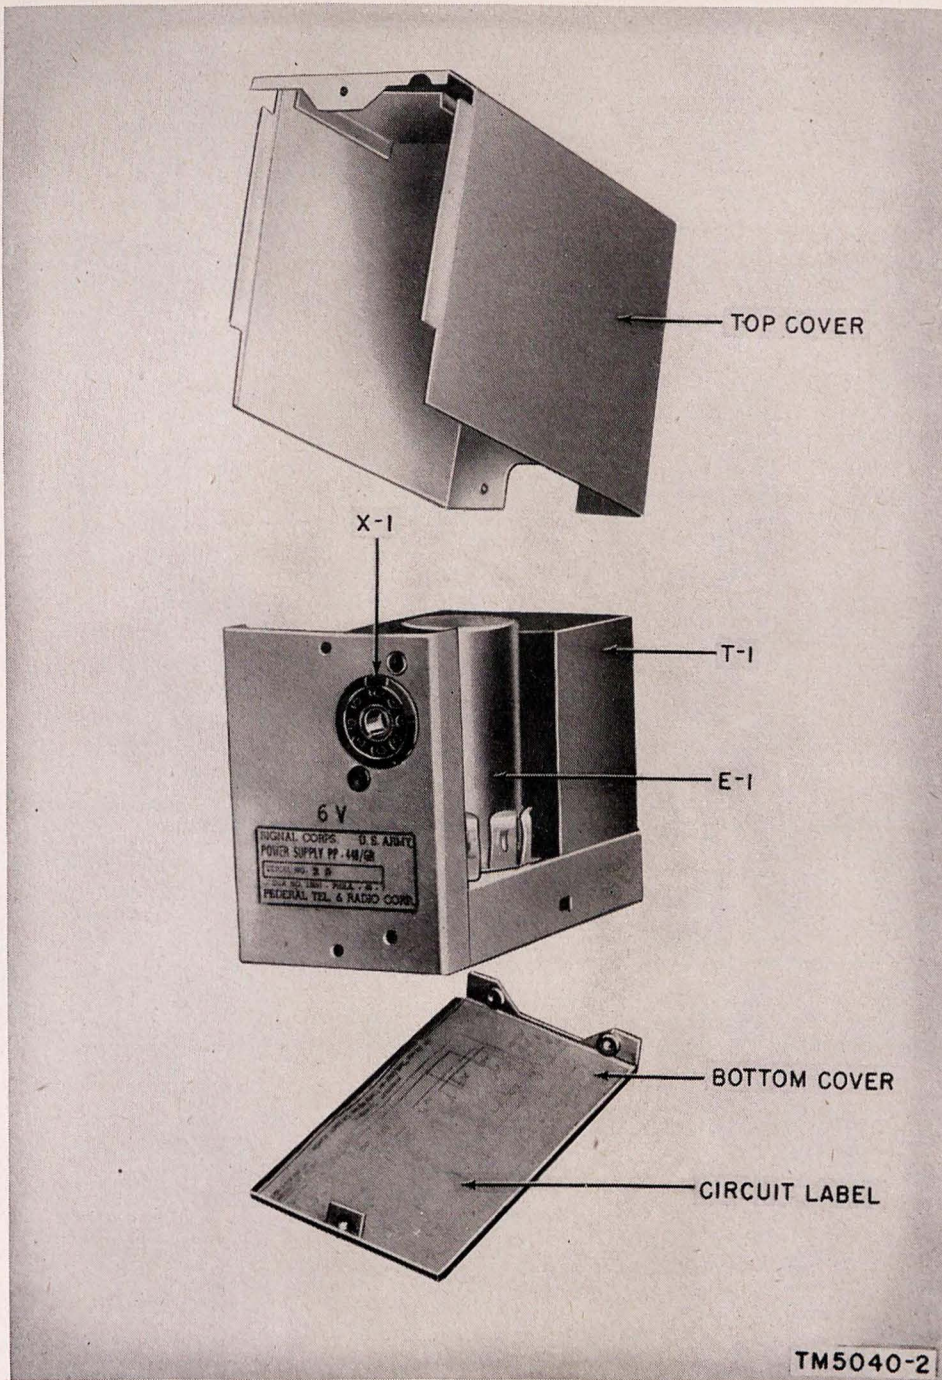
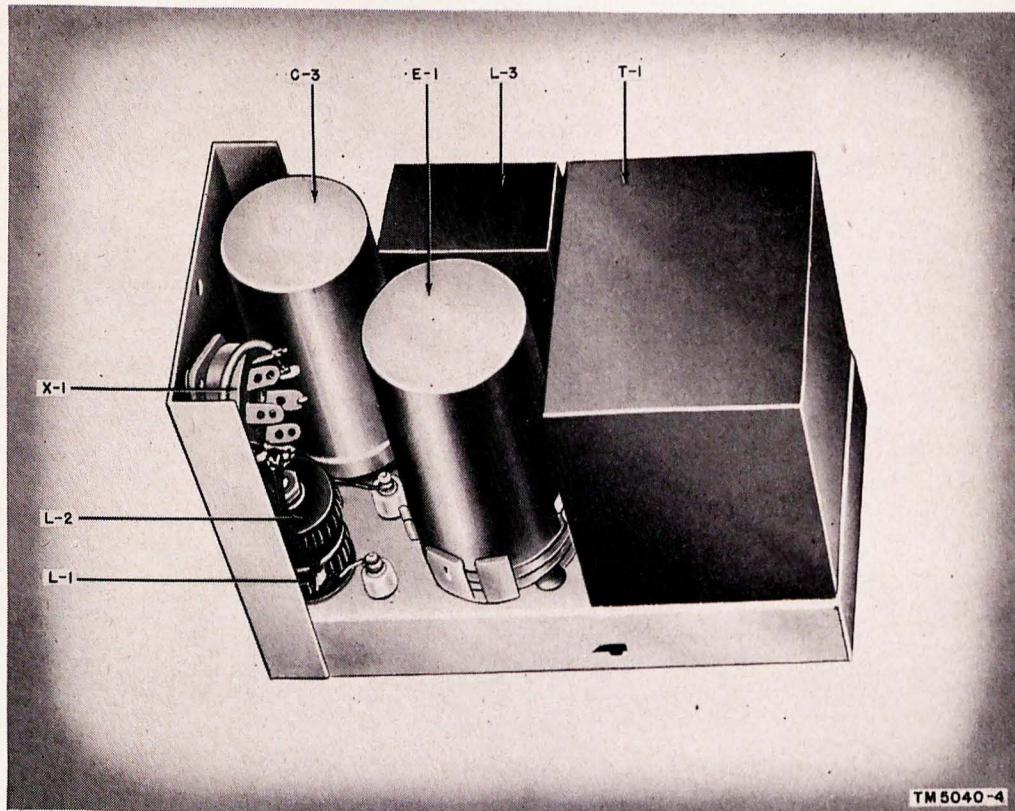

Figure 41. Power Supply PP-448/GR, disassembled view.
Figure 42. Power Supply PP-282/GRC, top view of chassis.
d. **PLUG-IN POWER SUPPLY.** Although it can be replaced as a single unit, the plug-in power supply is not furnished as a running spare. However, a spare is provided for the vibrator within the power supply (fig. 42). Remove the amplifier case (par. 88) and replace the vibrator as follows:
- (1) Loosen the clamp at the rear of the power supply compartment and swing it out of the way.
- (2) Grasp the handle at the rear of the power supply unit and pull straight out.
- (3) Remove the three green screws which fasten the top cover on the power supply chassis (fig. 41).
- (4) Using the handle on the cover, lift the cover with a straight upward movement. If the cover sticks, use a small screw driver and pry the cover gently.
- (5) Pull the vibrator (fig. 42) out of its socket with a straight upward movement. Do not rock or jiggle the vibrator while removing it from its socket. If necessary, use a small screw driver to pry the vibrator gently from its socket, but take care not to enlarge the ring clip which holds the vibrator near the base.